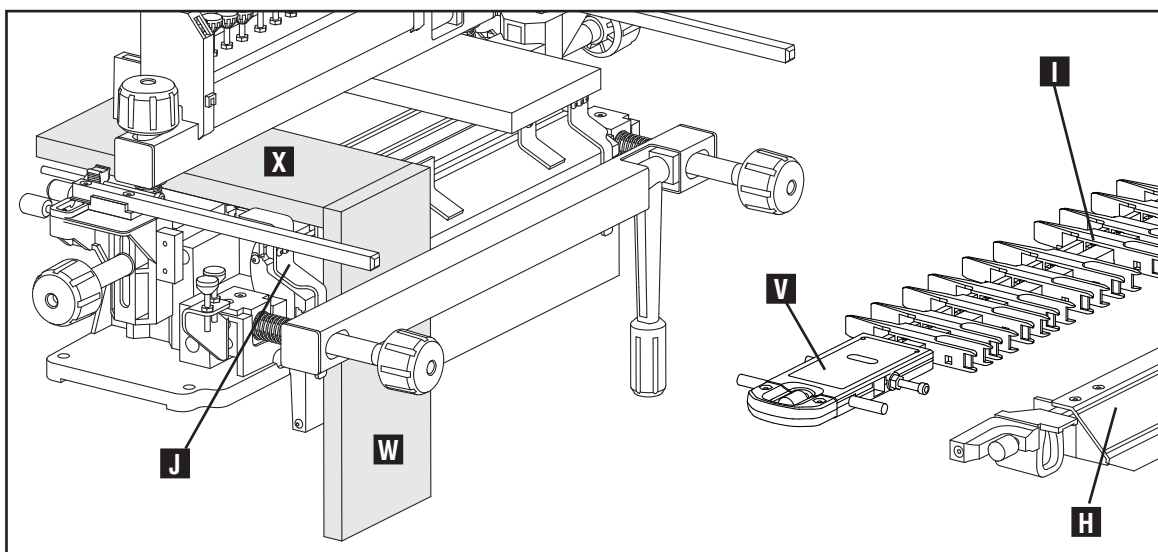

Fig. E11
1. Remove stabilizer bar (H) Fig. E11 and remove template (I).
2. Put horizontal scrap (X) into the jig.
3. Put the template back onto the jig so the yellow "B Tails" label (V) is located at the upper left side.
4. Slide vertical tailboard (drawer side) (W) in up against the lowered template (I) (shown out of the way for clarity). Be sure the tailboard is oriented with the "outside surface" facing the base. Slide a piece of horizontal scrap (X) into place behind the vertical piece to help reduce tearout.